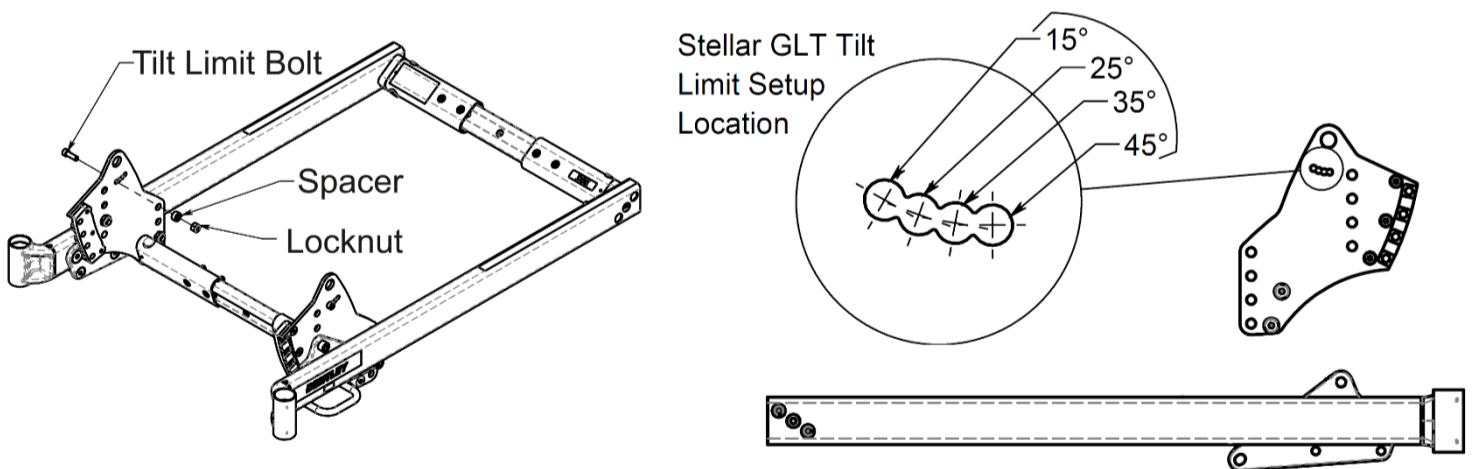

Figure 16.41: Stellar GLT Tilt Limit Setup
1. Remove the tilt limit bolt ($\frac{1}{4}$ -20 socket head cap screw), spacer and locknut from either side of the wheelchair as shown in Figure 16.41
2. Reposition the socket head cap screw to the specified hole indicated in Figure 16.41.